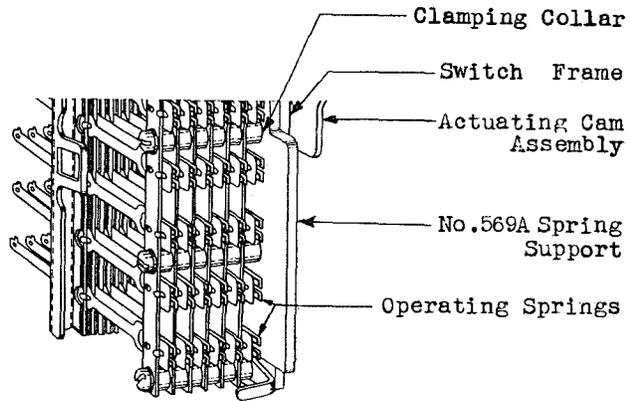

Fig. 2 - Position of Spring Support when Removing and Replacing Actuating Plate
3.09 Hinge, Hinge Pin and Actuating Plate: To replace any of these parts, proceed as follows. Loosen the switch mounting screws of the switch under consideration and the switch to the immediate right with the 4" regular screwdriver and shift the switches so as to allow as much room as possible between them. Take whatever precautions that are necessary to guard against shocks or injury from touching terminals on the rear of the switch under consideration and adjacent switches. Tighten the mounting screws securely. If enough space cannot be obtained in this manner, remove the mounting screws. Place the No. 569A spring support between the switch frame and the operating springs nearer the switch frame as shown in Fig. 2 so that the slots in the spring support engage the spring assembly clamping collars and the beveled edge is toward the contacts. Working from the terminal side, remove the hinge mounting nuts with the No. 544A wrench and remove the washers. Remove the hinges, hinge pin and actuating plate from the switch as an assembly, as follows. Hold the fingers of one hand under the lower end of the actuating plate. Remove the hinges from the hinge screws and place the fingers of the other hand on the top of the plate. Remove the plate from the switch. To replace a hinge, grasp the hinge pin firmly near the hinge to be replaced with the No. 485A smooth jaw pliers and rotate the hinge on the pin with a back and forth motion until it can be slid off the hinge pin. Take care in doing this not to bend or damage the hinge pin. To replace the hinge pin, or actuating plate, remove both hinges and slide the hinge pin through the hinges on the actuating plate. When replacing the actuating plate, remove the actuating plate operating bar as outlined in 3.08 and mount the bar securely in place on the new actuating plate.